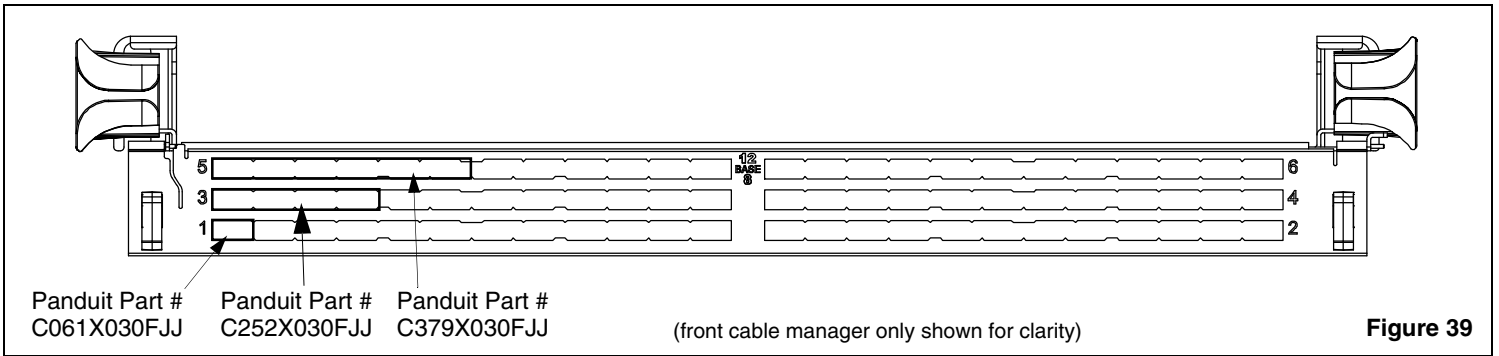

Figure 39
The labeling layout for the 1U front cable manager is shown in Figure 39 below. The layout for the 4RU is identical but contains twelve (12) trays instead of three (3). Panduit label part# C061X030FJJ can be used for single port identification, Panduit label part# C379X030FJJ for 6-port identification, or Panduit label part# C252X030FJJ can be used for 4-port identification.